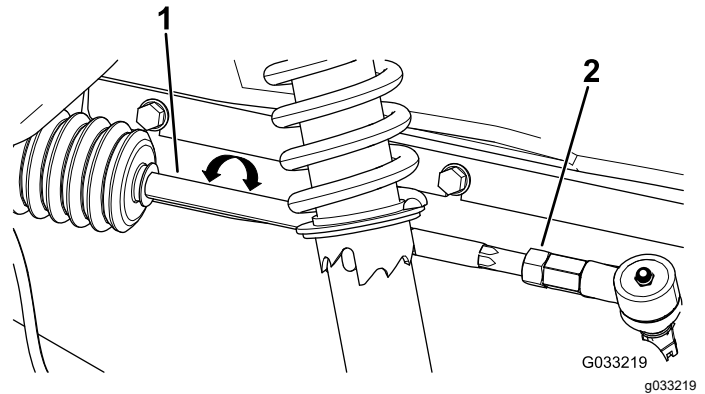

Figure 82
1. Loosen the jam nuts at the outer end of the tie rods (Figure 82).